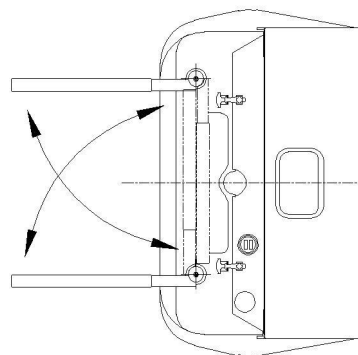

Figure6
4.1.2 The stacker can be mounted with a standing platform, and the operator can operate the stacker by standing on the platform. The platform is foldable, it can be turned up (see figure 6.)